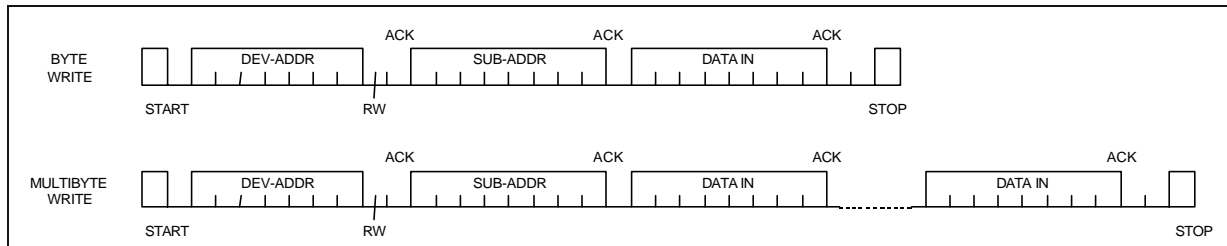

Figure 11. Write Mode Sequence.
11.3. WRITE OPERATION (see Figure 11)